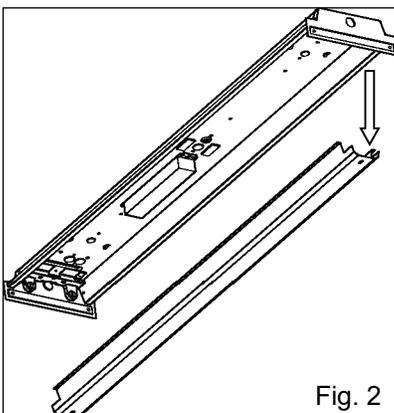

Fig. 2
4. Squeeze ballast cover at ends and remove (Fig.2).